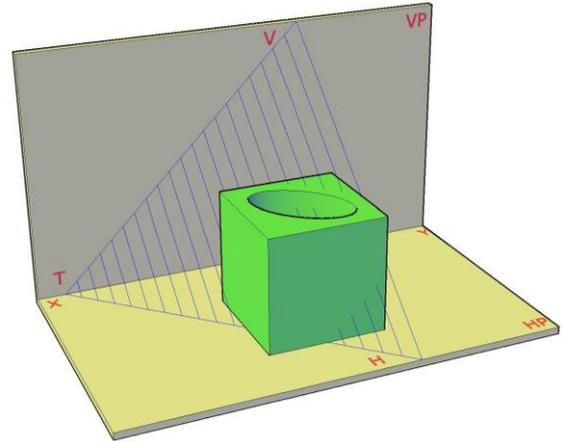
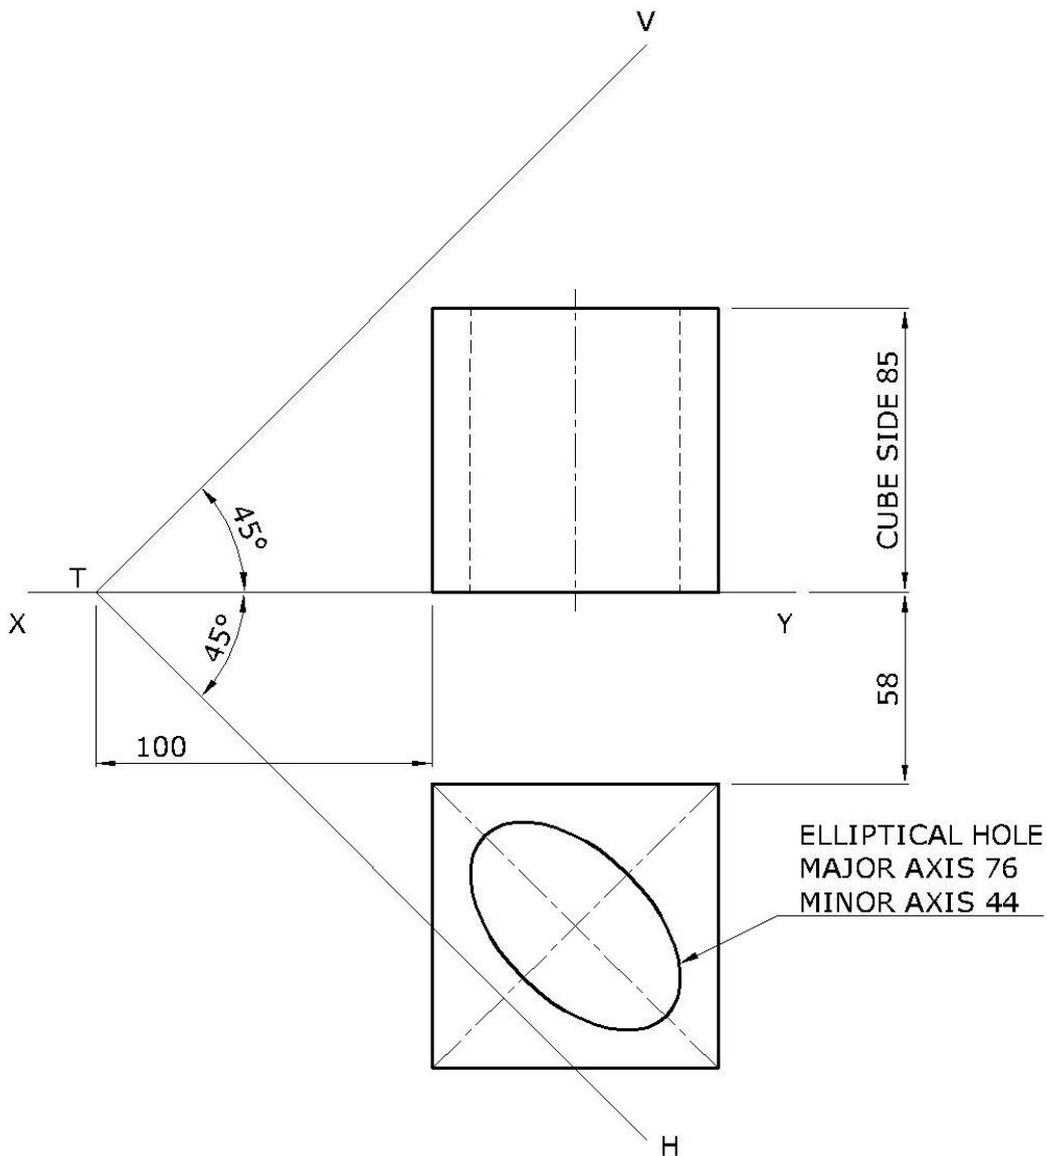

Figure 1a
Figure 1b
An illustration of a cube with an elliptical hole, cut by the oblique plane VTH, is given in Figure 1a. Dimensioned, orthographic views of the cube and the oblique cutting plane VTH are given in Figure 1b. The upper part of the truncated cube is to be removed.
- a) copy faintly Figure 1b; (5)
- b) project an auxiliary view of the cube to determine the true inclination of the cutting plane to the horizontal plane; (4)
- c) complete the truncated plan; (1)
- d) complete the truncated front elevation; (4)
- e) project the true shape of cut. (6)